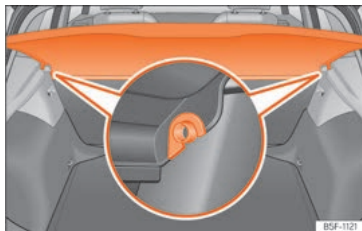

Fig. 172 In the boot: removing and installing the shelf.
- Remove the rear shelf from the side supports » » Fig. 172 by pulling it upwards and then take it out.
- Insert the cover horizontally so that the “recess” fits onto the axis of the supports » » Fig. 172 and press down until it engages.